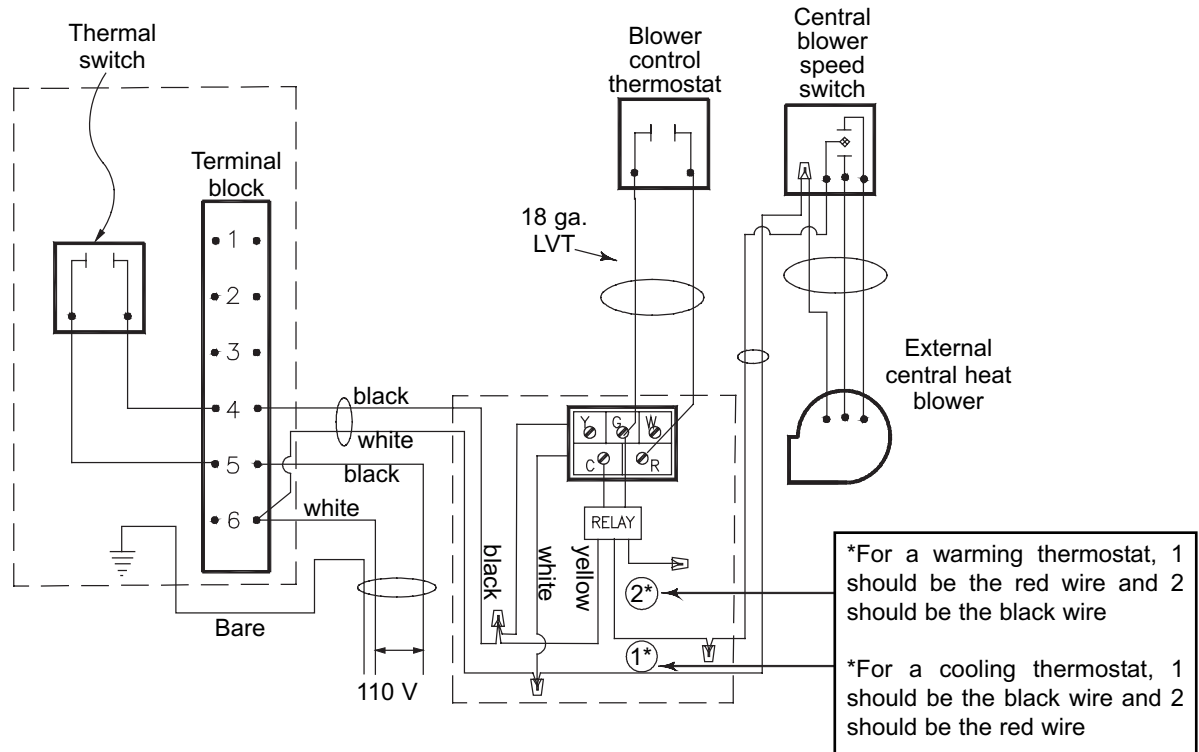

Figure 37: Wiring for the central heat system
a) If you would like the blower to turn on when the thermostat calls for heat, first locate the thermostat in the principal room heated by the duct system (this is the most popular use of the central heat blower). Do not install it in the room where the fireplace is installed. There are yellow black and red wires coming out of the relay as shown in the wiring diagram. Connect the wire from #4 of the terminal block to the black wire and put the marrette connector on the red wire for protection. (See Figures 37 and 38) for schematic wiring diagrams.
b) If the fireplace is in a small room and/or you would like the central heat blower to remove air from this room when it becomes too hot, locate the thermostat in the room with the fireplace (this is a less common use of the central heat blower). Connect the wire from #4 of the terminal block to the red wire and put the marrette connector on the black wire for protection. (See Figures 37 and 38) for schematic wiring diagrams.